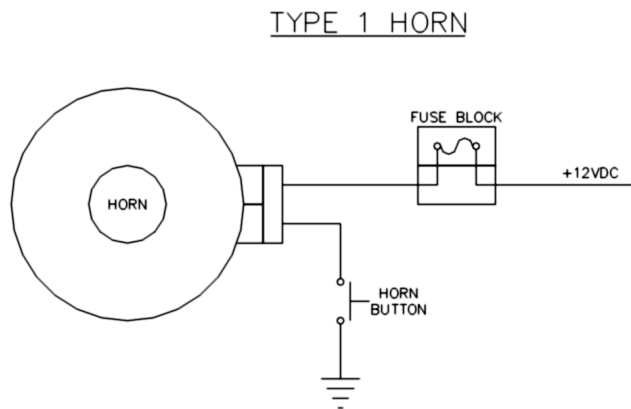
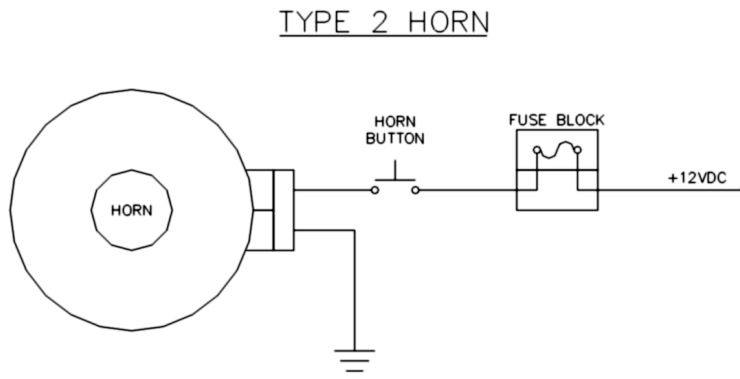
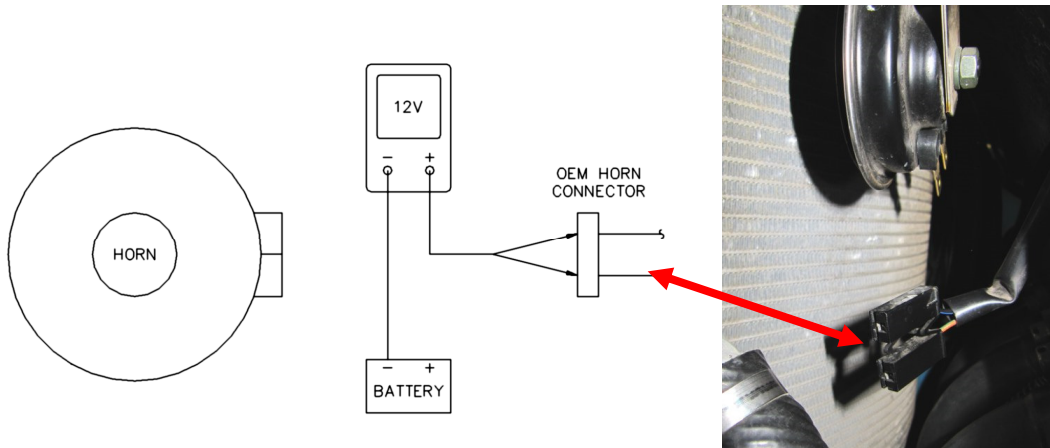

Figure 3 : Type 1 Wiring
Figure 4 : Type 2 Wiring
Figure 5 : Test for Wiring Type
6. Determine whether the motorcycle wiring is *type 1* (Figure 3) or *type 2* (Figure 4). Refer to the motorcycle's wiring diagram OR test the OEM horn connector with the ignition ON (Figure 5). *Type 1* wiring can be verified by measuring 12 volts on one of the terminals when the ignition is ON. Note the 12 volt wire colour. *Type 2* wiring can be verified by measuring 12 volts on one of the terminals only when the horn button is pressed.